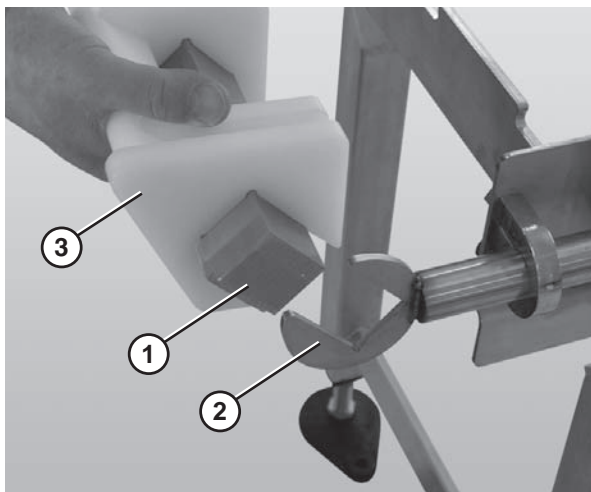

Figure 66
- Slide the nose bar drive or transfer post (**Figure 66, item 1**) out of the nose bar drive weldment or idler hands (**Figure 66, item 2**).
- Remove the nose bar tracking pucks (**Figure 66, item 3**), if applicable.